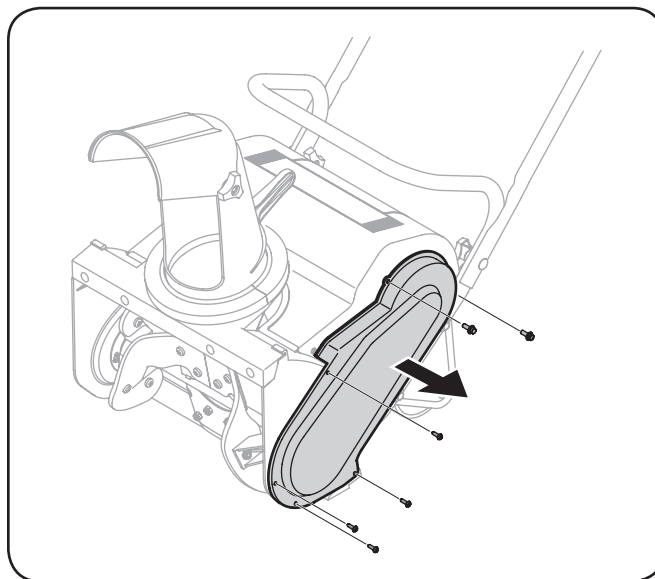

Figure 7-2
1. Unscrew the six screws securing the belt cover to the auger housing and remove the belt cover. See Figure 7-2.